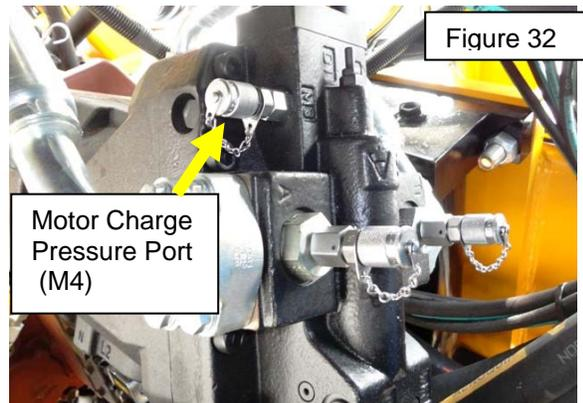

Figure 32
7. Install a (10,000 psi) pressure gage in M4 port on motor (Figure 32).
12. Pressure should be 3750 psi on gage (A), if not, see pump pressure limiter adjustment. The motor threshold will climb from 0 to the same pressure as the pump pressure (gage A).